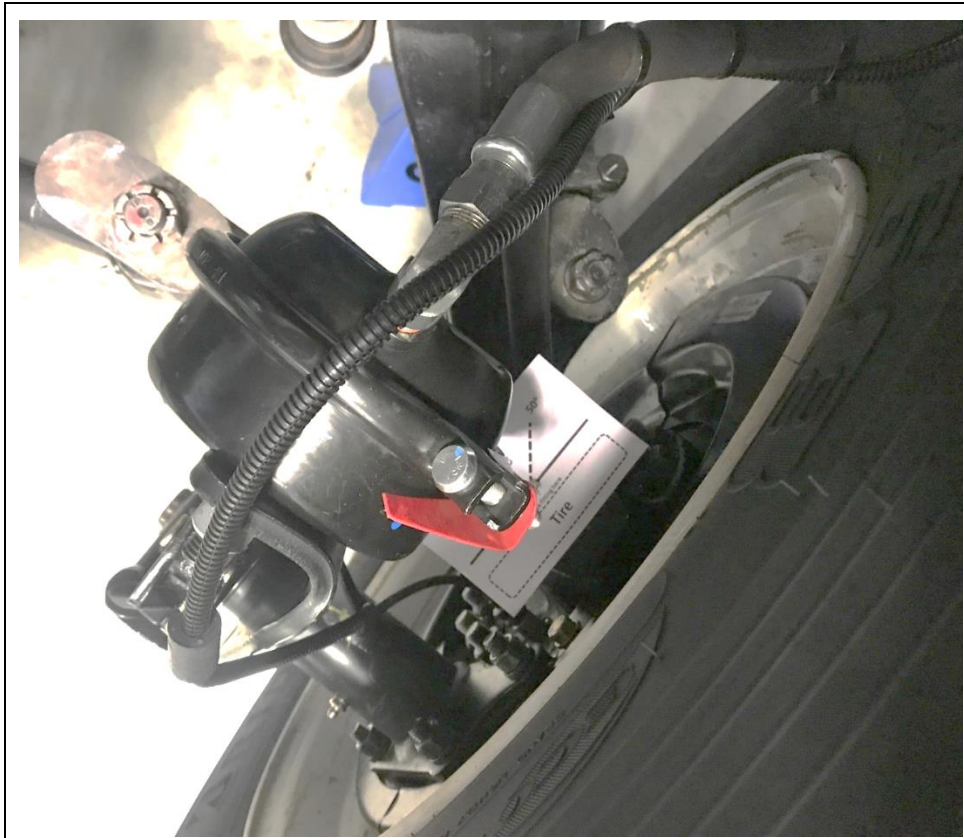
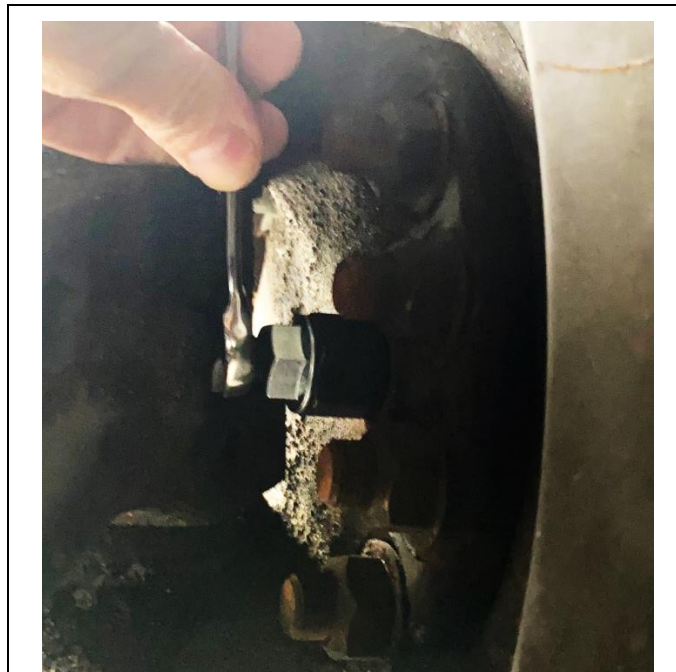

Figure 6
Figure 7
13. Start the engine and turn the steering wheel in the opposite direction of the wheel/stop bolt being replaced. Continue to turn the steering wheel until the template installed in Step 12 is in the same position as in Figure 6. The 50° dashed line on the template should align parallel with the casting mark through the center of the axle. Then turn the engine off.
14. Using a $\frac{1}{2}$ " open-end wrench, adjust the stop bolt until the stop bolt contacts firmly against the axle bolt stop. (See Figure 7.) Ensure the template is still in the position shown in Figure 6.